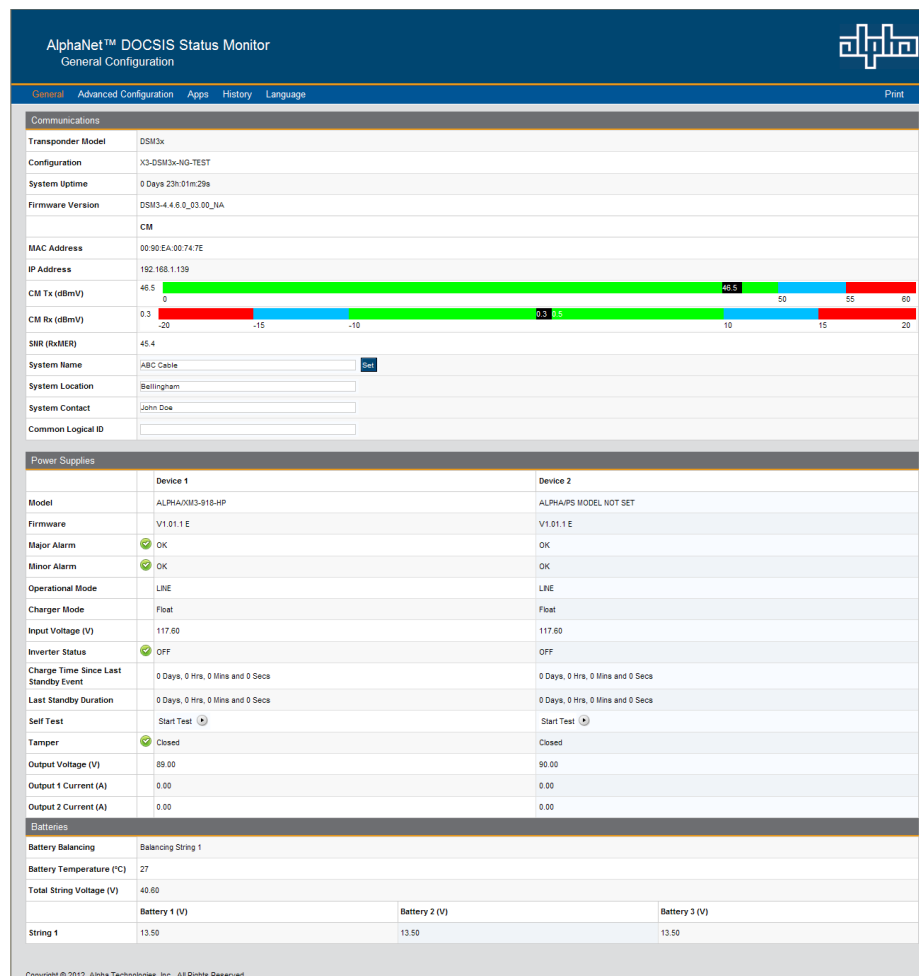

Fig. 2-34, Web Server Home Page
4. The DSM3 Series transponder's Web server home page will appear (Fig. 2-34).